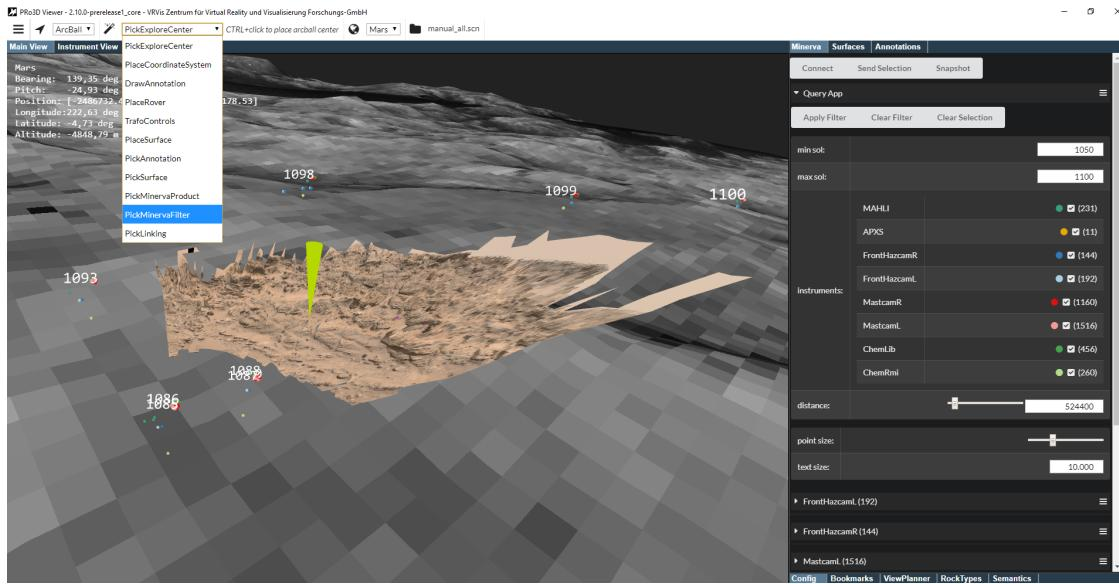

Figure 30: PickMinervaFilter
- **PickMinervaFilter:** Select “PickMinervaFilter” in the actions menu and press CTRL+LMB to pick a point on the surface. Then set a distance value with the distance slider in the Query App and click the “ApplyFilter” button. The products where the distance to the selected point is smaller than the selected distance in the Query App are shown (Figure 30).